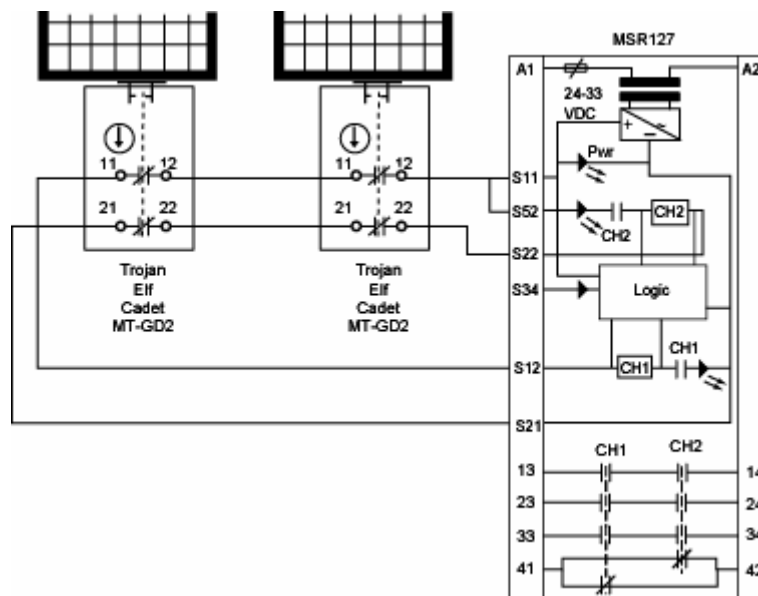

Figure 7. Dual Channel with Multiple Tongue Interlocks
- The input circuit arrangement shown in Figures 7 meets the requirements of EN954-1 Category 3.